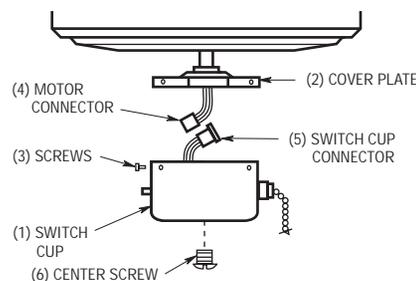

Figure 1
2. On the ceiling fan, remove the switch cup(1) from the cover plate(2) by removing the three screws(3) around the side of the switch cup (Figure 1).
3. Disconnect the motor connector(4) from the switch cup connector(5) (Figure 1).
4. Remove the center screw(6) from the switch cup (Figure 1).